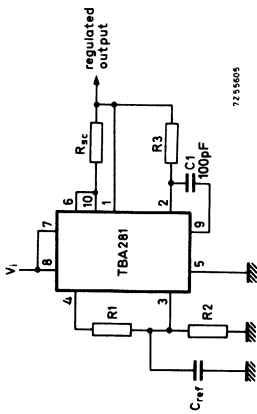
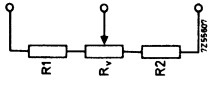

Fig. 1 1)2)
Fig. 3 2)
(for testcircuit see figs. 1, 2 and 3 on page 5)
2) For adjustable output voltage replace R_1/R_2 in fig. 1 and 2 with divider circuit shown in fig. 3.
Outputs from +2 V to +7 V (fig. 1)
¹⁾ For adjustable output voltage replace R₁/R₂ in fig. 1 and 2 with divider circuit shown in fig. 3 (on page 5).